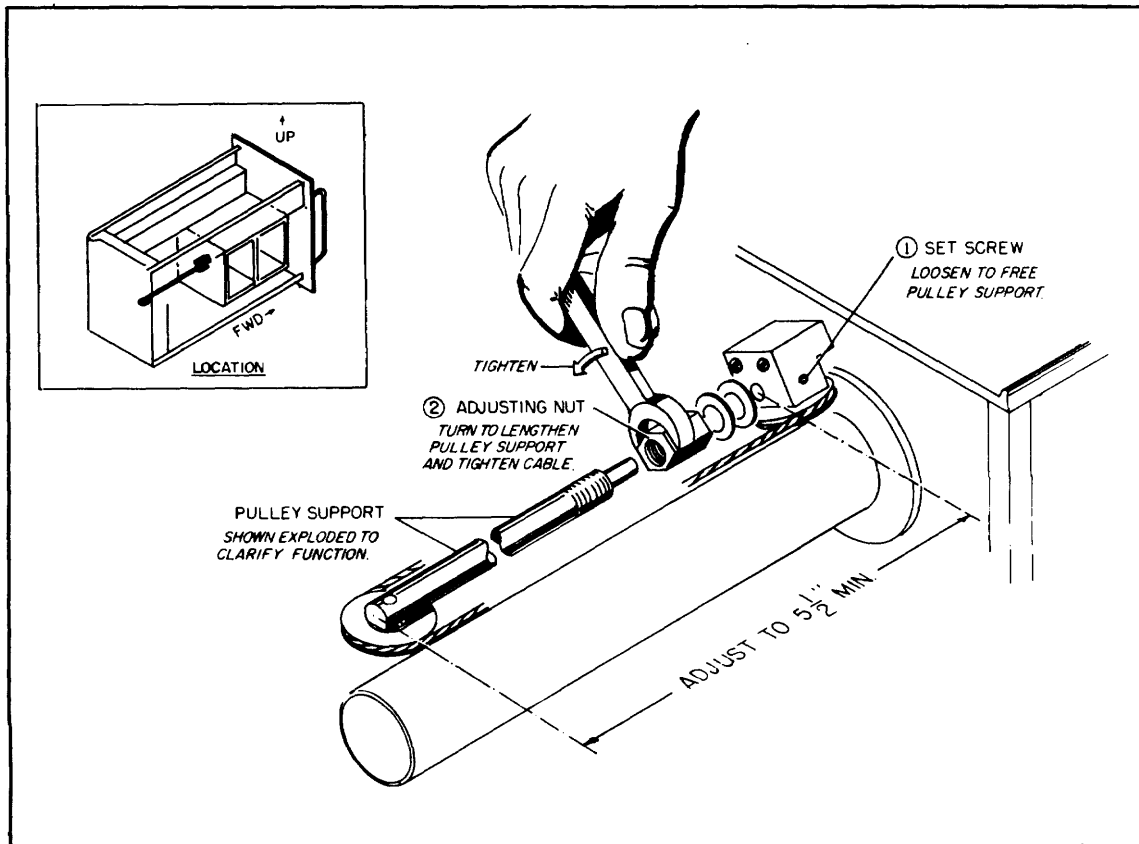

Figure 6-5. Diagram Showing Adjustment of Cable Tension for Output Attenuator Drive System
rear pulley (see Figure 6-5). The shaft is threaded a short distance at the seating end and the depth of seating is determined by the position of the nut on the shaft. The nut is forced against the mounting block face by the tightness of the drive cable and an Allen set screw, when tightened in the mounting block, prevents the shaft from turning. If, due to physical damage or wear, the cable must be replaced, a new cable of the same type should be obtained and installed as instructed below. It is possible with care, to replace the cable so that a minimum of recalibration will be necessary. To replace the attenuator drive cable, proceed as follows:
- c. Referring to Figure 6-5, measure and note the exact distance from face of mounting block to end of rear pulley support shaft.